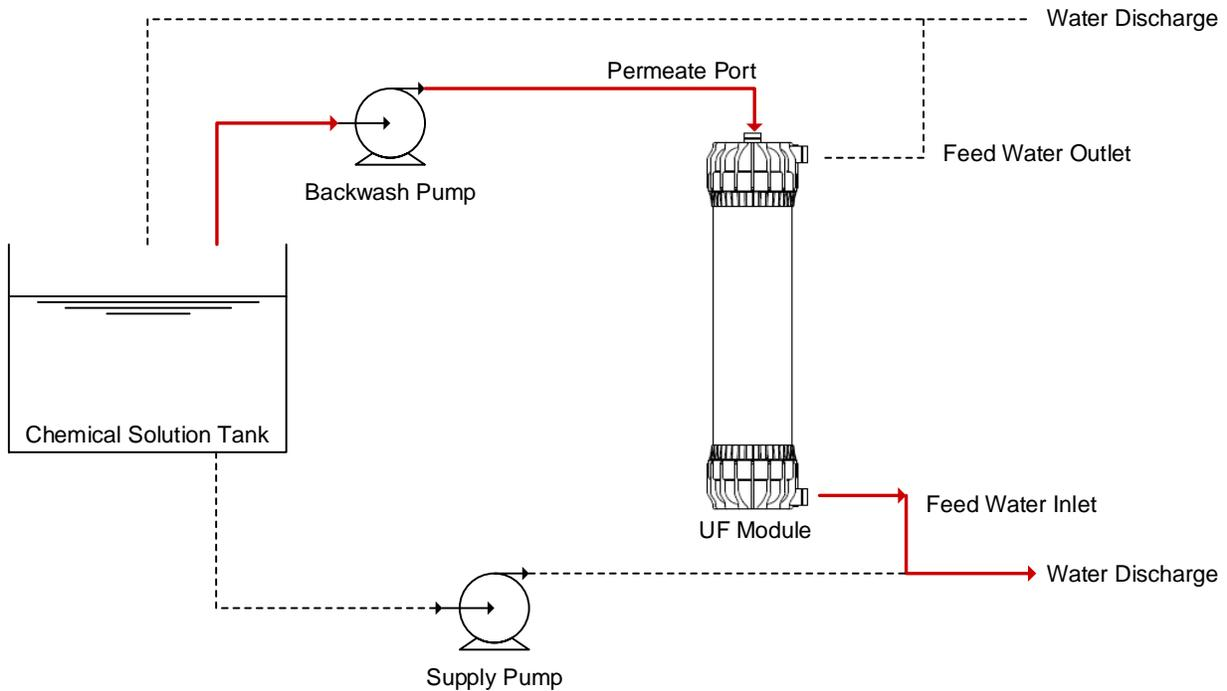

Figure 2. Backwash flow where discharge water exists the feed water inlet port.
- a. Feed the water into the permeate port (at the top of the module) at up to 0.1 Mpa for approximately one minute (approximately 300 L or 80 gal) and discharge it from the inlet feed water port (see Figure 2). At this time, close the permeate port at the bottom of the module and the outlet feed water port.